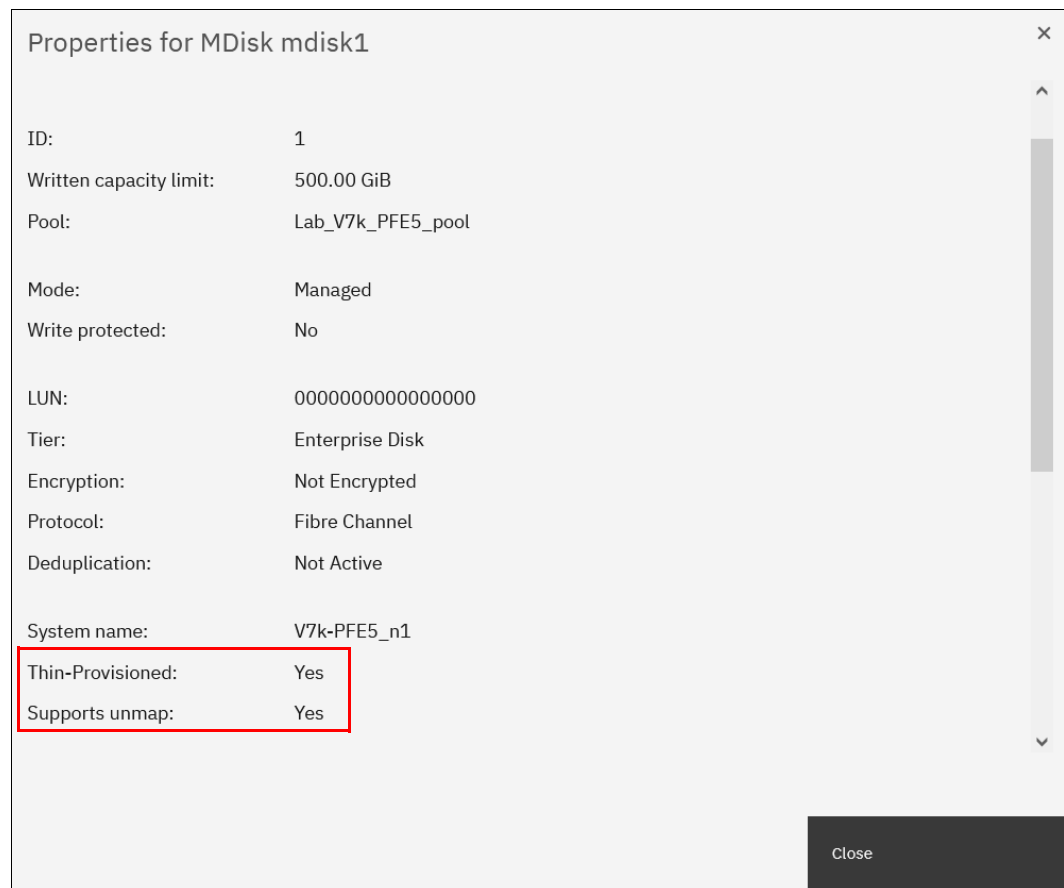

Figure 9-29 Thin-provisioned MDisk properties
- The MDisk properties window, which opens by selecting **Pools** → **MDisks by Pools**, right-clicking an MDisk, and then selecting the **Properties** option, as shown in Figure 9-29.